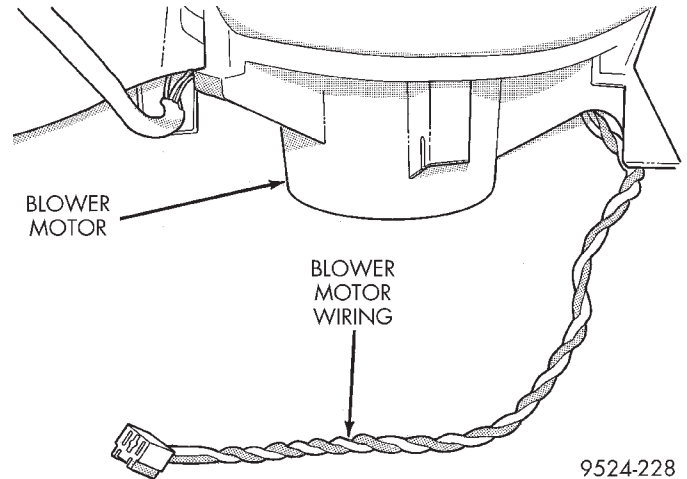

Fig. 82 Blower Motor Wiring
- (12) Remove blower motor wiring at resistor (Fig. 82).